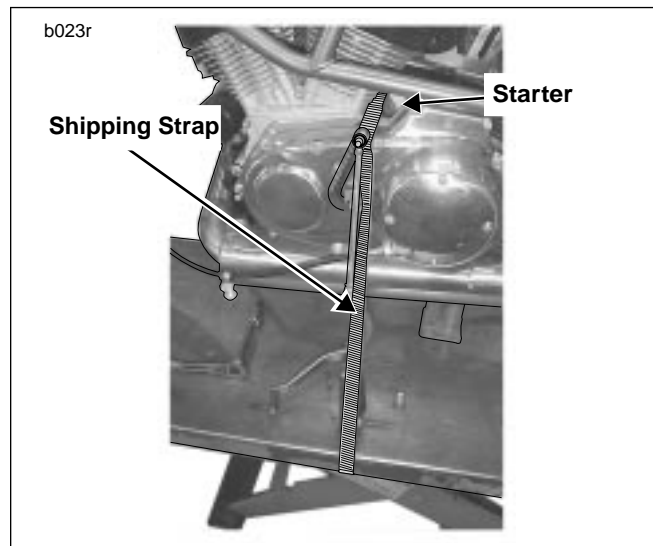

Figure 12. Strapping Engine to Lift (Typical)
- See Figure 12. Strap the engine down to the lift with a shipping strap. Position strap so it is located between starter and rear cylinder. Engine and frame assembly are now both supported (by jack/strap and frame strap).